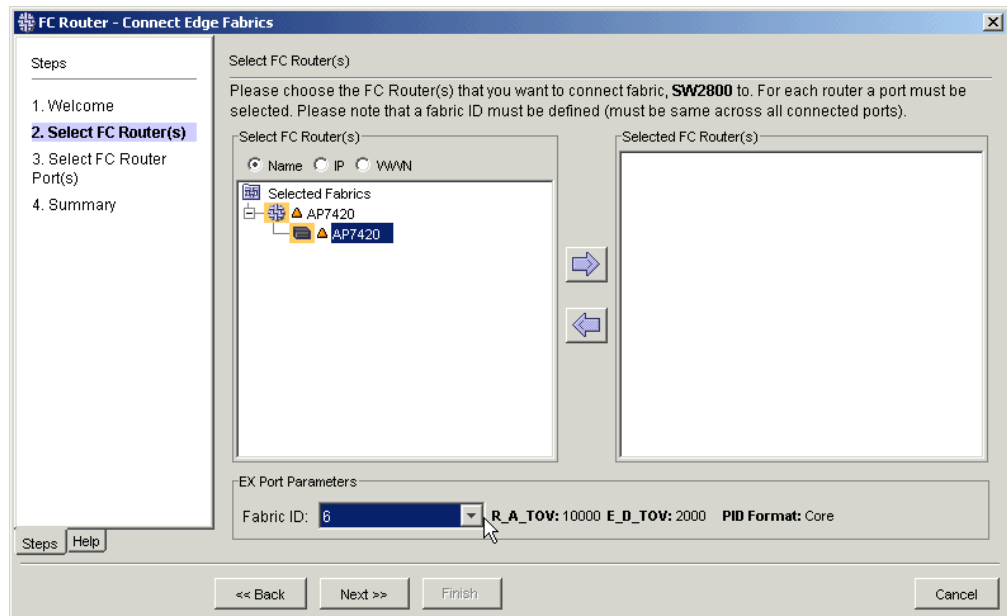

Figure 29: Select FC Router
3. Read the information and then click **Next**. The Select FC Router dialog box opens (see Figure 29).